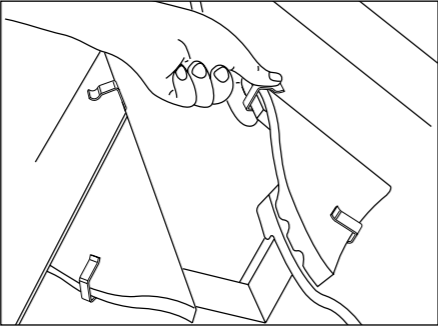

Fig. 4 – Clip all small pieces of tile along hip
- 4 Ensure that all raking cut roof tiles along the length of hip are secured using the ‘C’ clips provided or secret cut tile clips (Code 43607, sold separately) (Figs. 4 and 5).